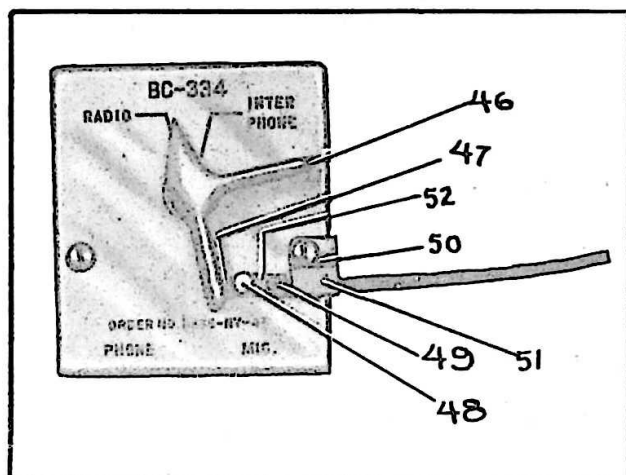

Figure 2-2. Interphone Control Box BC-334 (Master) with Control Shaft MC-166-A Attached
b. Attach the control shaft to Interphone Control Box BC-334 as follows: (See fig. 2-2.) Screw the swivel 47 into the tapped hole provided near the tapped hole provided near the end of the handle on the knob 46. The swivel should be tightened so that the pin 48 around which the coupling pivots, is perpendicular to the face of the box. The control shaft is attached to the clevis (52) by the hexagonal-socket set screw 49. The control shaft casing is held by the bracket 51 which is attached to the box by the screw holding the right-hand side of